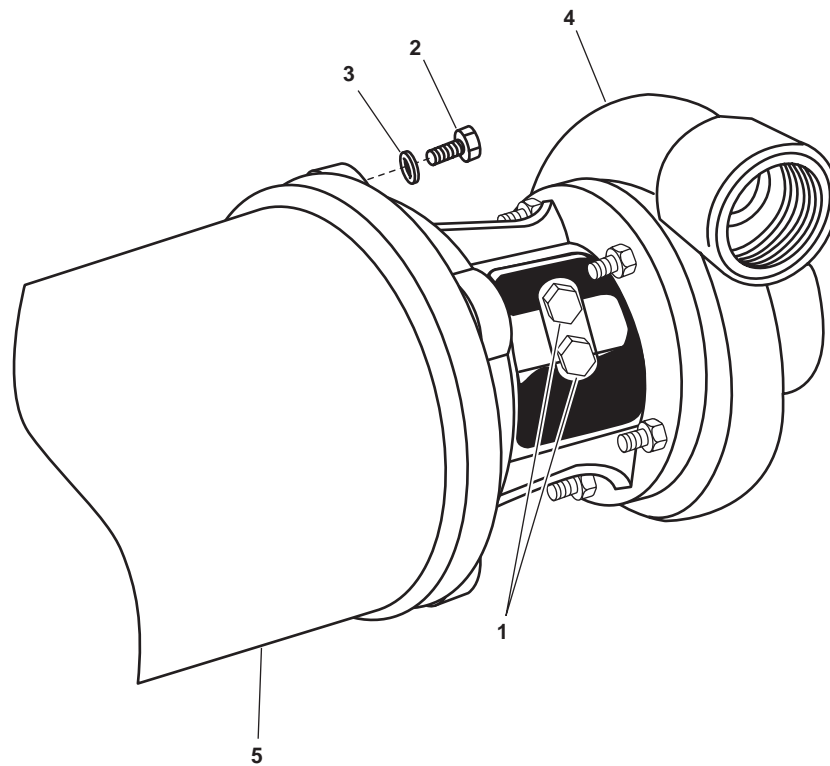

Figure 1. Pump Assembly
1. Loosen, but do not remove, the two exposed capscrews (figure 1, item 1).
2. Remove the four bolts (figure 1, item 2) and four lockwashers (figure 1, item 3) that secure the pump (figure 1, item 4) to the motor (figure 1, item 5). Discard the lockwashers.
3. Remove the pump (figure 1, item 4) from the motor (figure 1, item 5).
1. Install the pump (figure 1, item 4) on the motor (figure 1, item 5) using four bolts (figure 1, item 2) and four new lockwashers (figure 1, item 3).
2. Tighten the two exposed capscrews (figure 1, item 1).